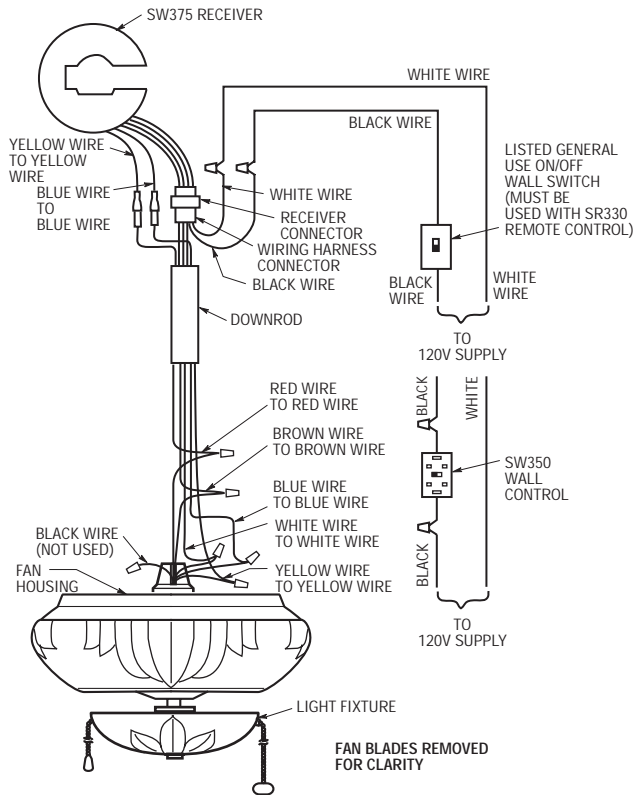

Figure 4
5. Using wiring connectors (supplied), connect the white, red, blue, brown, and yellow wires from the downrod to the white, red, blue, brown and yellow wires of the ceiling fan (Figure 4). Wires must be connected color-to-color.
- 21. Connect the black wire from the wiring harness to the black (hot) supply wire (Figure 4). Connect the white wire from the wiring harness to the white (neutral) supply wiring. Connect the green ground wires from the hanger bracket and the hanger ball to the supply ground wire. Use wire connectors supplied with your ceiling fan.
- 22. Securely connect the wiring harness connector to the receiver connector, and connect the blue and yellow wires to the blue and yellow wires from the receiver (Figure 4).